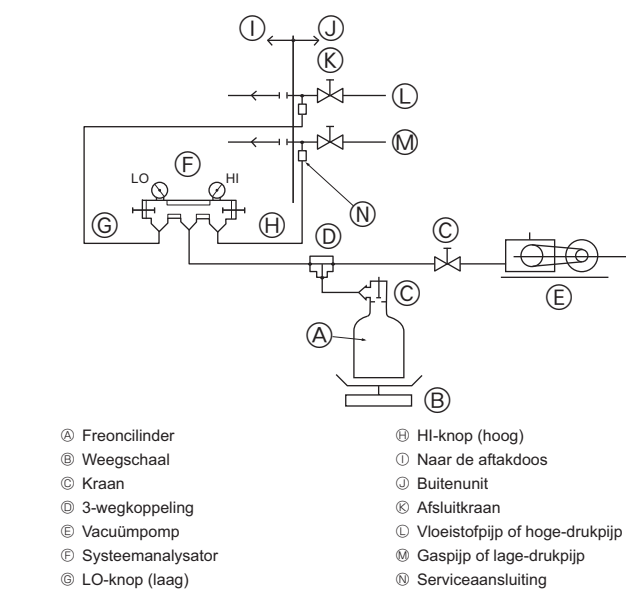

Fig. 5-12
② **Vacuüm pompen (Fig. 5-12)**